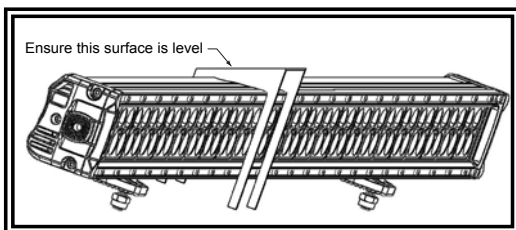

Figure 2
3. With the vehicle on a level surface, place the included cardboard cutout over the lightbar and angle the lightbar on the mounting brackets until the top surface of the cardboard is level as shown in FIGURE 2. This ensures the light output angle of the safety director and worklight LEDs is optimized.
- With the vehicle on a level surface, place the included cardboard cutout over the lightbar and angle the lightbar on the mounting brackets until the top surface of the cardboard is level as shown in FIGURE 2. This ensures the light angle of the safety director and worklight LEDs is optimized.